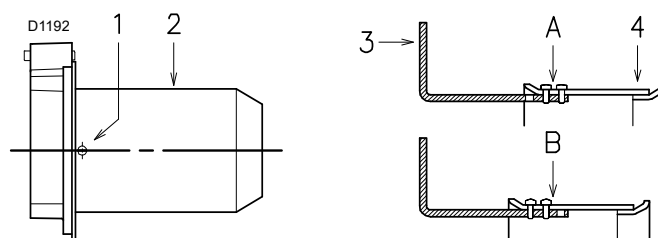

Fig. 13
- loosen the screws 1)(Fig. 13) and disassemble the blast tube 2);
- move the rod 3)(Fig. 13) from position A to position B, thereby drawing back the shutter 4);
- reassemble the blast tube 2)(Fig. 13) and the screws 1).